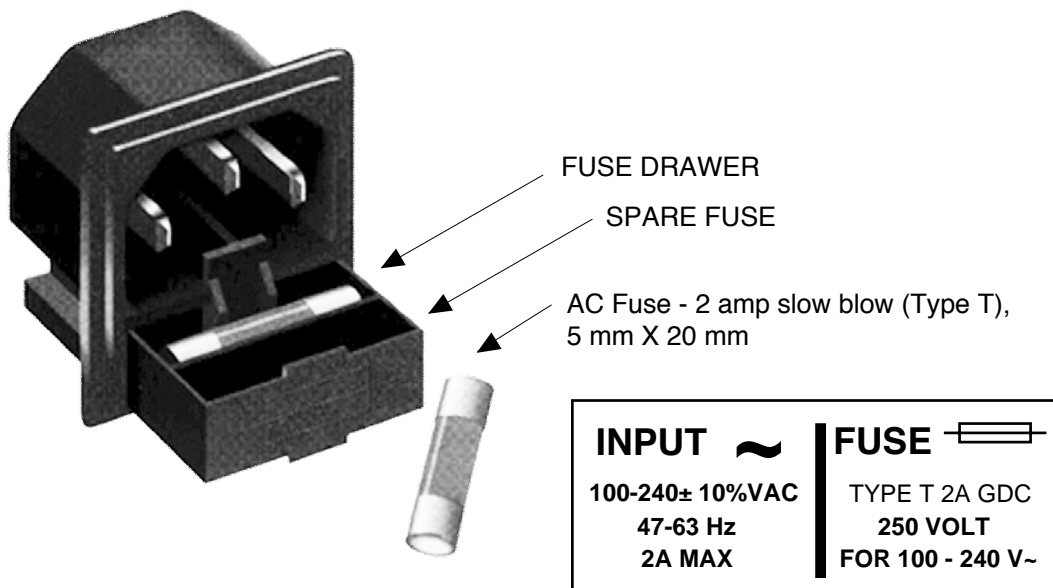

**FIGURE 2.2 2116-143 Front Panel Controls and Indicators**
4. Be sure DS1 (green, DC Power) is on and DS2 (red, Alarm) is off (Figure 2.2).
6. If EXT is selected or AUTO is selected and there is a 10MHz, 3 dBm signal at J2, check that DS3 (yellow, Ext 10 MHz) is on (Figure 2.2).